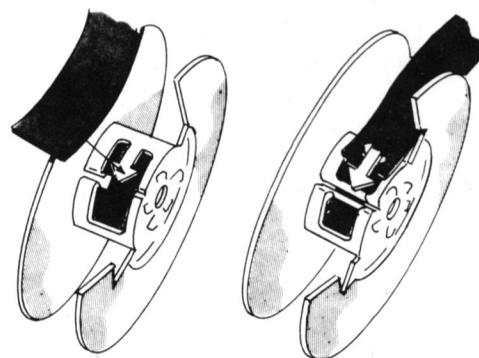

Figure 3-7 Attachment to Spool
- (1) Gently pull the bail wire tab to move the bail wire away from the platen.
- (2) If the ribbon spools are to be discarded, or if the ribbon is to be inverted, do the following before proceeding to Step 3:
- (3) If your replacement ribbon has a new takeup spool preconnected to it, proceed to Step 4. If the spools are not pre-connected to the ribbon, do the following:
- Engage the hook at the end of the ribbon over the protruding arrow in the hub of the empty spool. If no hook is available, pierce the end of the ribbon over the point of the arrow (see Figure 3-7).